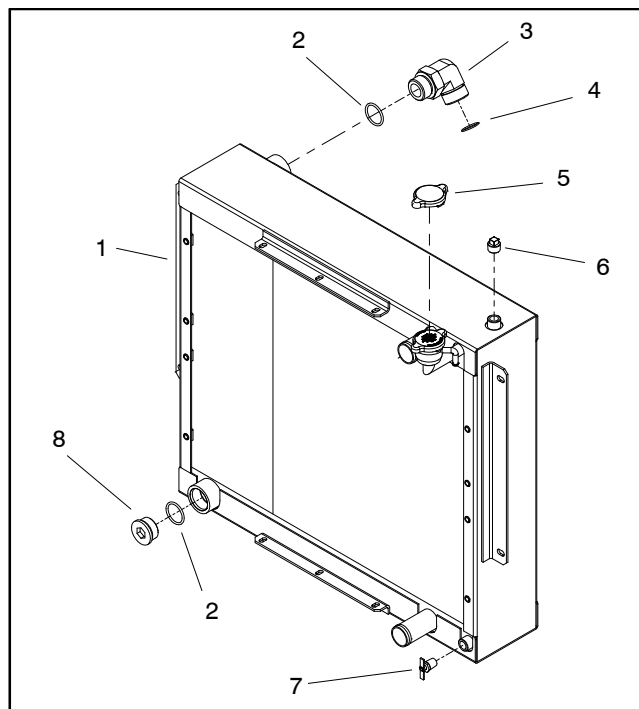

Figure 12
14. If necessary, remove draincock (item 7 in Fig. 12), plug (item 6 in Fig. 12) and hydraulic plug (item 8 in Fig. 12) from radiator/oil cooler.
15. If hydraulic fittings (item 3 in Fig. 12) are to be removed from oil cooler, mark fitting orientation to allow correct assembly. Remove fittings from cooler and discard O-rings.
1. If hydraulic fittings (item 3 in Fig. 12) were removed from oil cooler, lubricate and place new O-rings onto fittings. Install fittings into oil cooler openings using marks made during the removal process to properly orientate fittings. Tighten fittings (see Hydraulic Fitting Installation in the General Information section Chapter 4 – Hydraulic System).
2. If hydraulic plug (item 8 in Fig. 12) was removed from oil cooler, place new O-ring on plug and install into oil cooler port.
3. If draincock (item 7 in Fig. 12) or plug (item 6 in Fig. 12) were removed from radiator, apply thread sealant and install draincock and plug into radiator openings (Fig. 12).
5. Carefully position radiator/oil cooler to the radiator mount. Make sure that spacers (item 32) are positioned in hood seals. Secure radiator/oil cooler and recirculation barriers (items 24 and 25) in place with four (4) flange head screws and flange nuts.
8. Connect reservoir hose (item 39) to the radiator vent tube.
11. Install plenum assembly (item 5) to crossover plate and secure with flange head screws and flange nuts.
12. Install air cleaner intake hose (item 8) to the air cleaner and plenum.